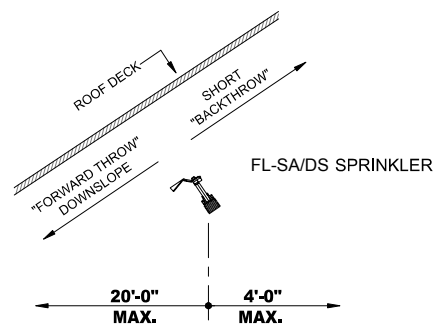

FIGURE 35: SPRINKLER FRAME ORIENTATION TO ROOF SLOPE
- For this design methodology, the FL-SA/DS sprinklers may typically be utilized at the Hip roof area adjacent to the hip line of the roof and positioned to throw out towards the eaves. Truss framing members must run parallel to the long direction of throw of the FL-SA/DS sprinkler. See FIGURE 35 for reference.